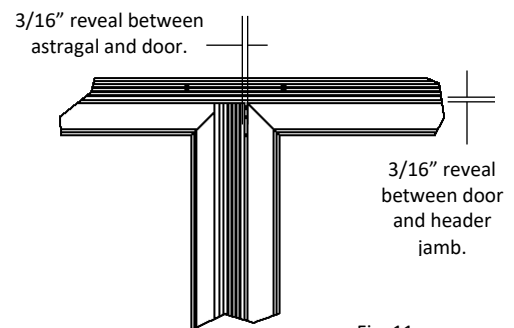

Fig. 11
2. Mark the tip of both top and bottom flush rods with a grease pencil. Slide astragal onto “stationary” door, keeping top of astragal flush with the top of door. You will want to have $\frac{3}{16}$ ” reveal between “stationary” door and the “swing” door. (Fig. 11) Use (5) #8 x $\frac{3}{4}$ ” self-tapping screws to fasten astragal onto